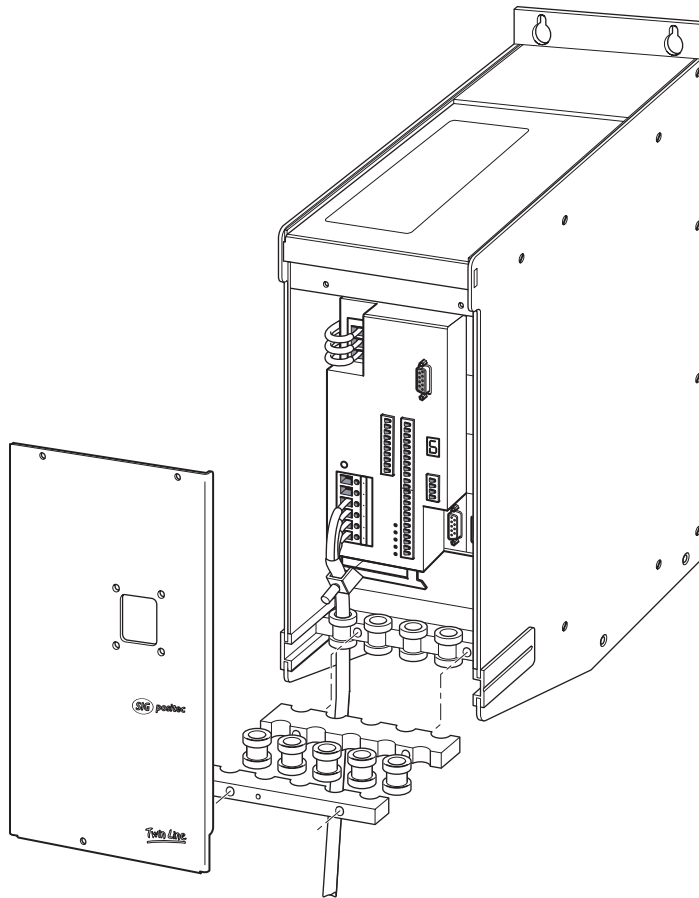

Fig. 4.6 Connection example for the TLC51x IP54 controller
- ▶ Mount the grommets as shown in Fig. 4.6.